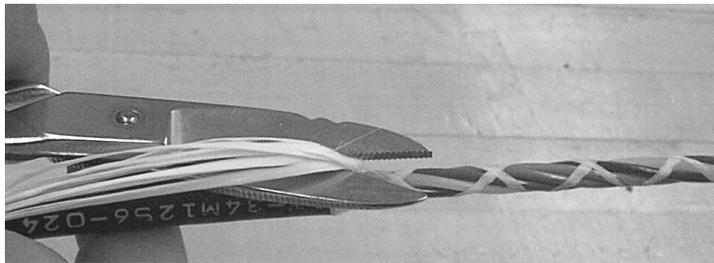

Figure 8 – Cut the dielectric strength members as required.
4.9 Consult the splice closure instructions to determine if the dielectric strength members are required for strain relief. Separate the dielectric strength members from the buffer tubes and cut them as required for fastening inside the splice closure (Figure 8).